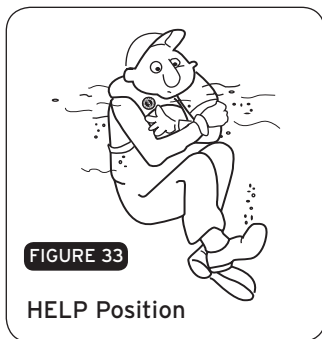

FIGURE 33
- 3) Use the standard H.E.L.P. position when wearing an Inflatable PFD, drawing the legs up to a seated position, because doing so will help you conserve body heat (Fig. 33).